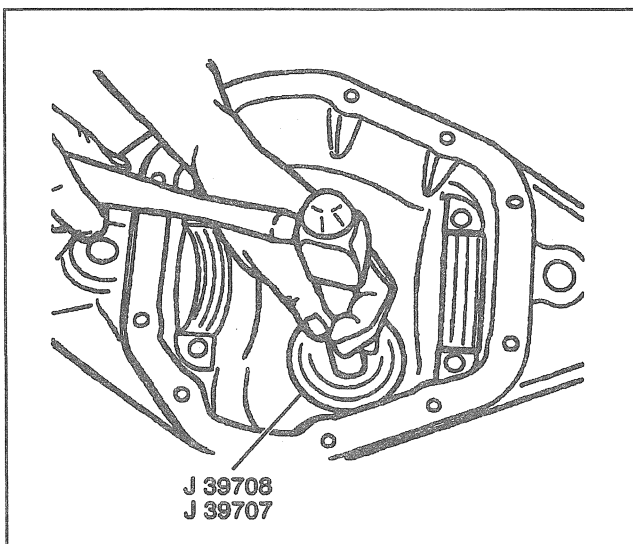

Figure 21—Installing Inner Pinion Bearing Cup
Install or Connect (Figures 21 through 24)
2. Drive the inner bearing cup into the axle assembly using J 39708 and J 39707. The cup must be seated on the shims (Figure 21).